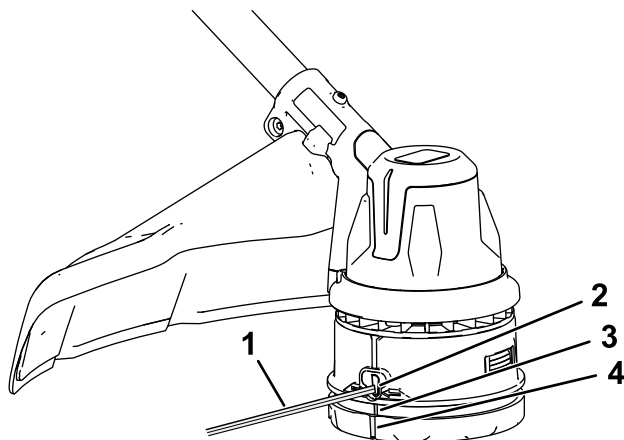

Figure 16
4. Press and turn the bump head in the direction shown by the arrows (clockwise) on the bottom of the bump head until the marks on the side of the bump head align with the marks beneath the eyelets (Figure 16).